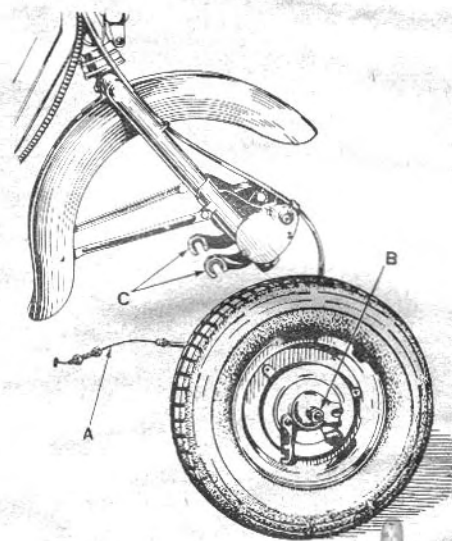
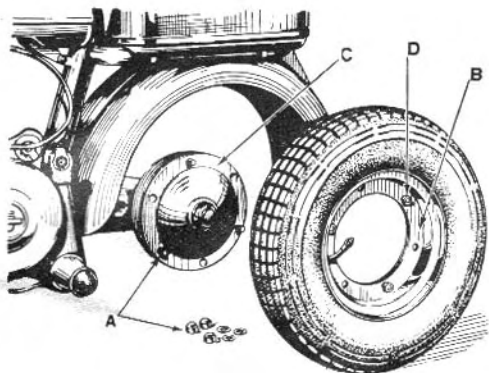

Fig. 7
Fig. 8
To remove the front wheel, on both models (fig. 7), first disconnect the brake control cable (A), then loosen the two cap nuts (B) fastening the wheel to the rocker arms (C), place the washer under the nuts, located within the rocker arms. To dismantle the rear wheel on the model d (fig. 8) loosen the three cap nuts (A) fixing the rim